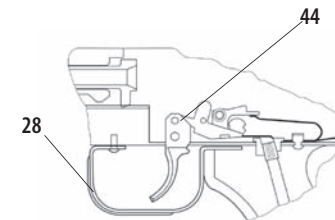

Fig. 18 **The trigger mechanism**
**Trigger 4** is pivoted in the receiver on pin 41 and controls the release of the striker through the sear. The rear part of the trigger fingerpiece projects to form projection **a** which when leant against the receiver, restricts backward motion of the trigger. In the top part of the trigger is a cut-out in which disconnecter 42 is seated on disconnecter pin 44 (Fig. 18). In the rear part of the trigger is an oblique bed for **disconnecter spring 43**.
The sear is pushed into engagement with the nose of the striker by the **trigger mechanism feather 47** arm (Fig. 18). The feather is mounted on the bottom of the recess of the receiver. It is locked by the rivet of the trigger guard rear end on which the trigger mechanism feather is placed with its circular opening in order to prevent longitudinal displacement. It is side guided by the screw nut of the grip. Arm c of the feather presses receiver cover pin safety pin 26 while the bent end of arm d snaps in the recess of the safety catch, thus locking its position. The dimple on arm d is intended for supporting the pointed end of the front sight spanner when taking out or inserting the safety catch.